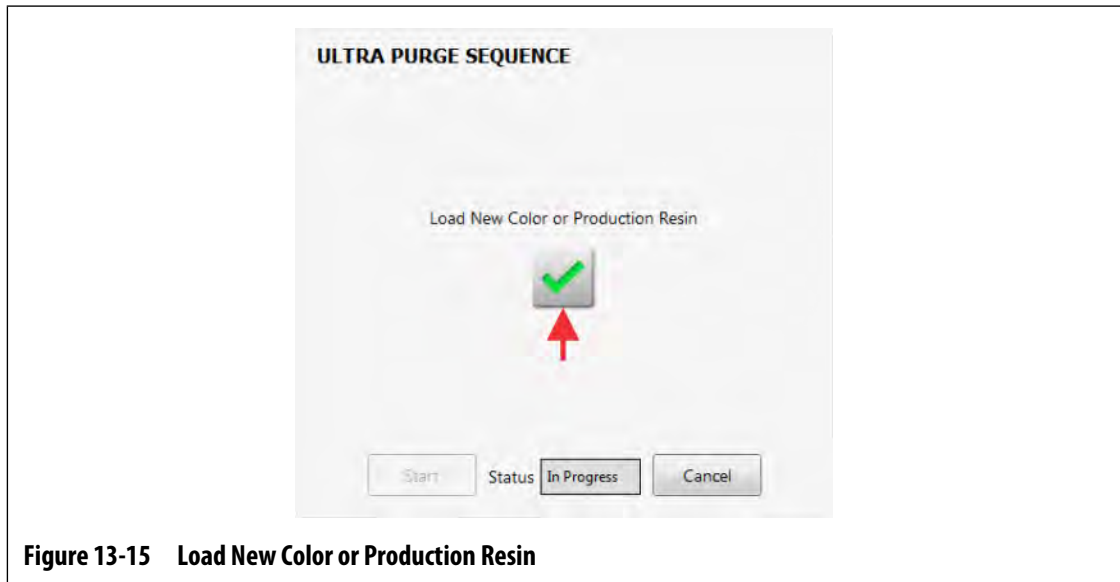

Figure 13-15 Load New Color or Production Resin
- 20. Load the new color or production resin into the IMM (Figure 13-15).